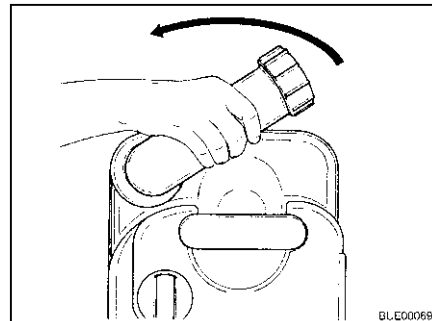

Fig. 254 Turning drainage neck
- Turn the drainage neck upwards (Fig. 254).